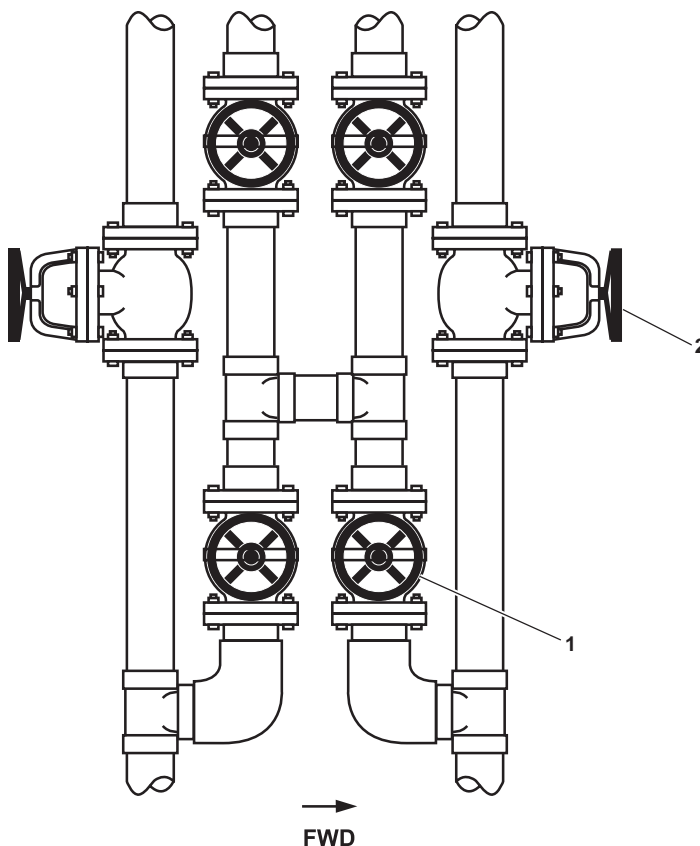

Figure 13. Pressurize Fire Main
2. CLOSE valve FM-17, FIRE/G.S. PMP No. 1 DISCH TO GS (figure 13, item 1).
3. OPEN valve FM-16, FIRE/G.S. PMP No. 1 DISCH TO FM (figure 13, item 2).